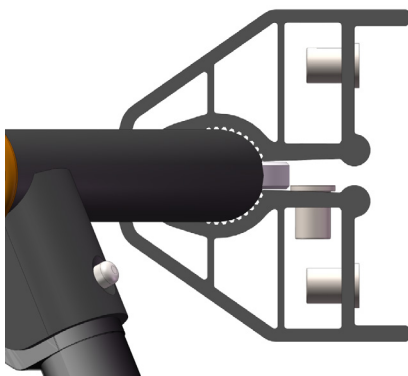
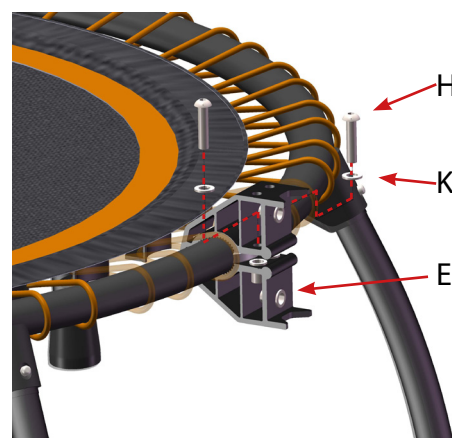

Fig. 7
Fig. 8
2. Press the clamp on the frame together (see fig. 7) and fasten the clamp with two Allen screws (H) and washers (K) each (see fig. 8).
3. Tighten the bolts using the Allen key (O).